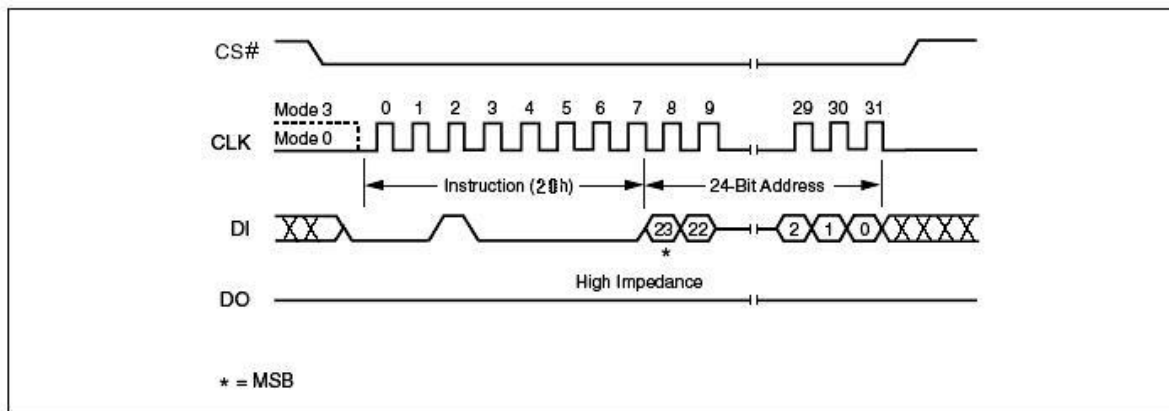

Figure 28. Sector Erase Instruction Sequence Diagram
The instruction sequence is shown in Figure 28. Chip Select (CS#) must be driven High after the eighth bit of the last address byte has been latched in, otherwise the Sector Erase (SE) instruction is not executed. As